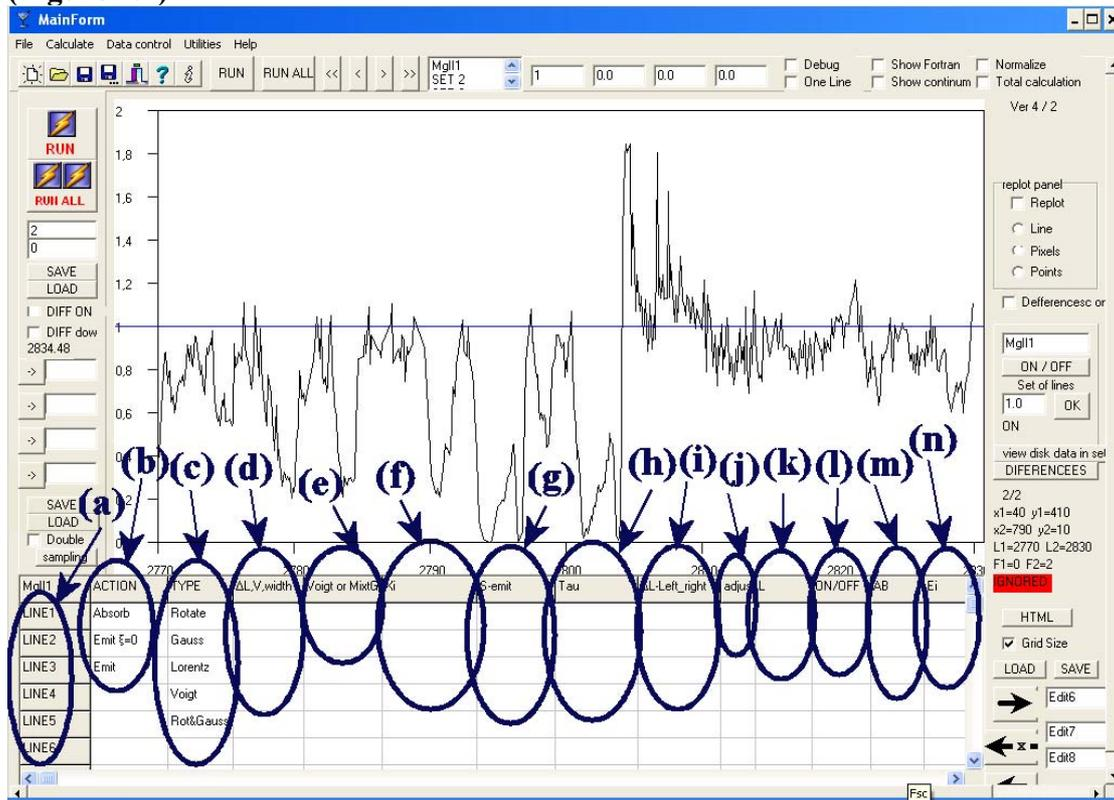

Figure 2.4
Step 3: Insert values for the parameters, in order to reproduce a spectral line (Figure 2.4)